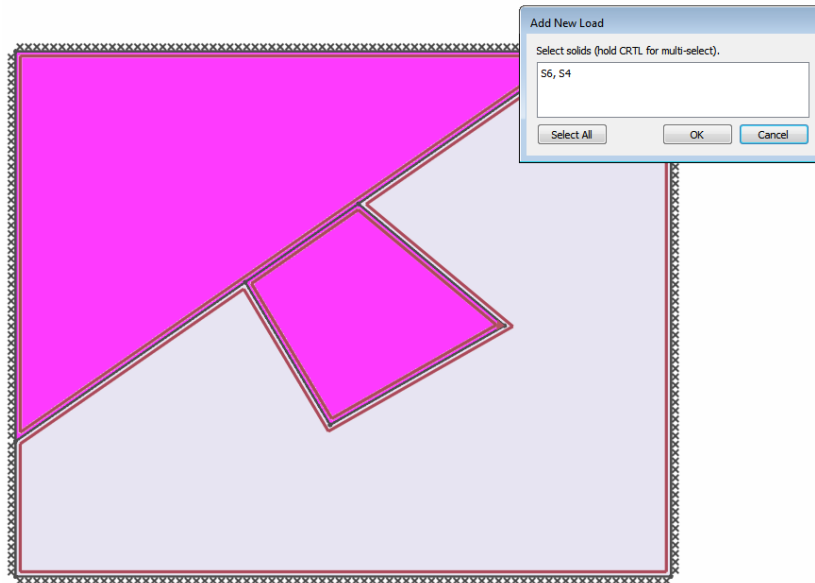

Figure 17.3: Adding a pressure load to multiple solids on screen
- Using the mouse cursor, select the solid zones on the slab to load (see Figure 17.3). To select multiple zones, hold down the CTRL button on the keyboard while clicking. Selected solids will turn pink and their ID will be displayed in the dialog. To select all the solids in the model, click the **Select All** button.